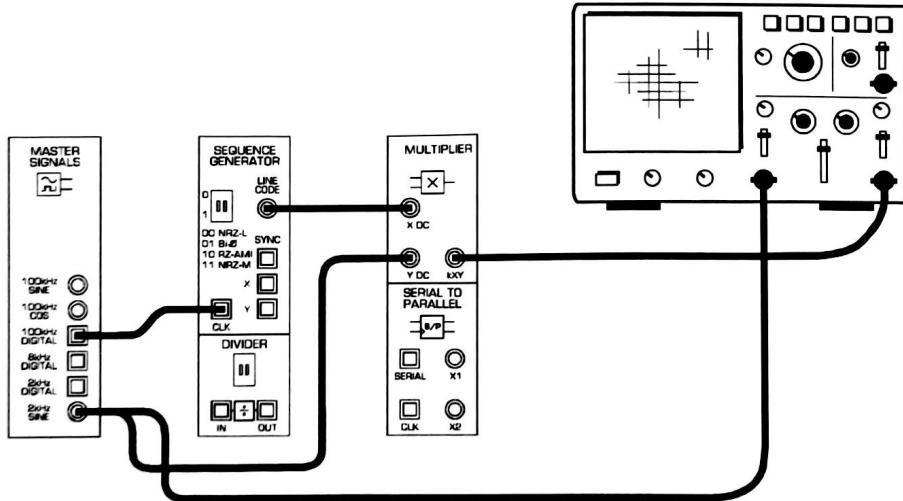

Figure 1
5. Connect the set-up shown in Figure 1 below.
The set-up in Figure 1 can be represented by the block diagram in Figure 2 below. It multiplies the 2kHz sinewave message with a PN sequence modelled by the Sequence Generator's 32-bit pulse train output.